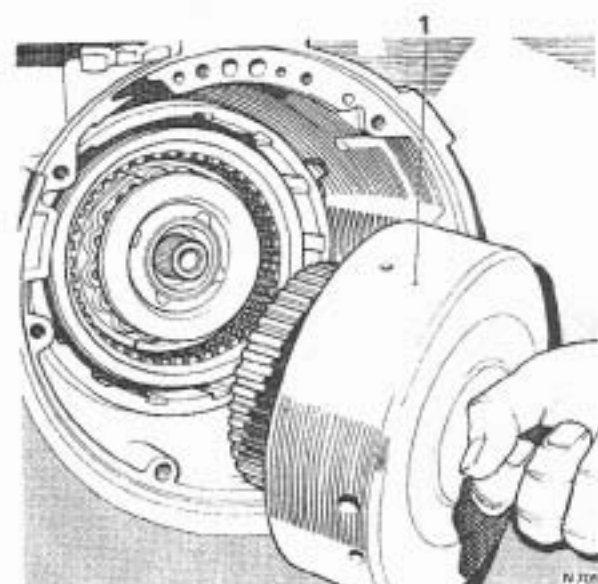

FIG. T240 REMOVING THE FORWARD CLUTCH ASSEMBLY
3. Withdraw the turbine shaft and the forward clutch from the transmission (see Fig. T240).